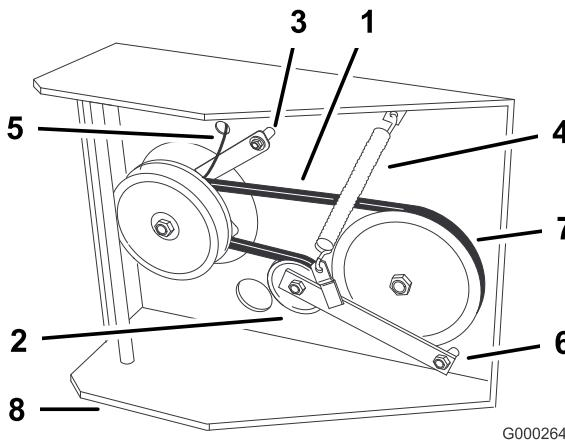

Figure 49
6. Disconnect clutch retainer from the engine deck (Figure 49).
7. Unhook tension spring from side of frame (Figure 49).
10. Torque pivot bolt to 35-40 ft-lb (47-54 N-m). Install tension spring between idler arm and frame bracket (Figure 49).
11. Install clutch retainer to the engine deck (Figure 49).